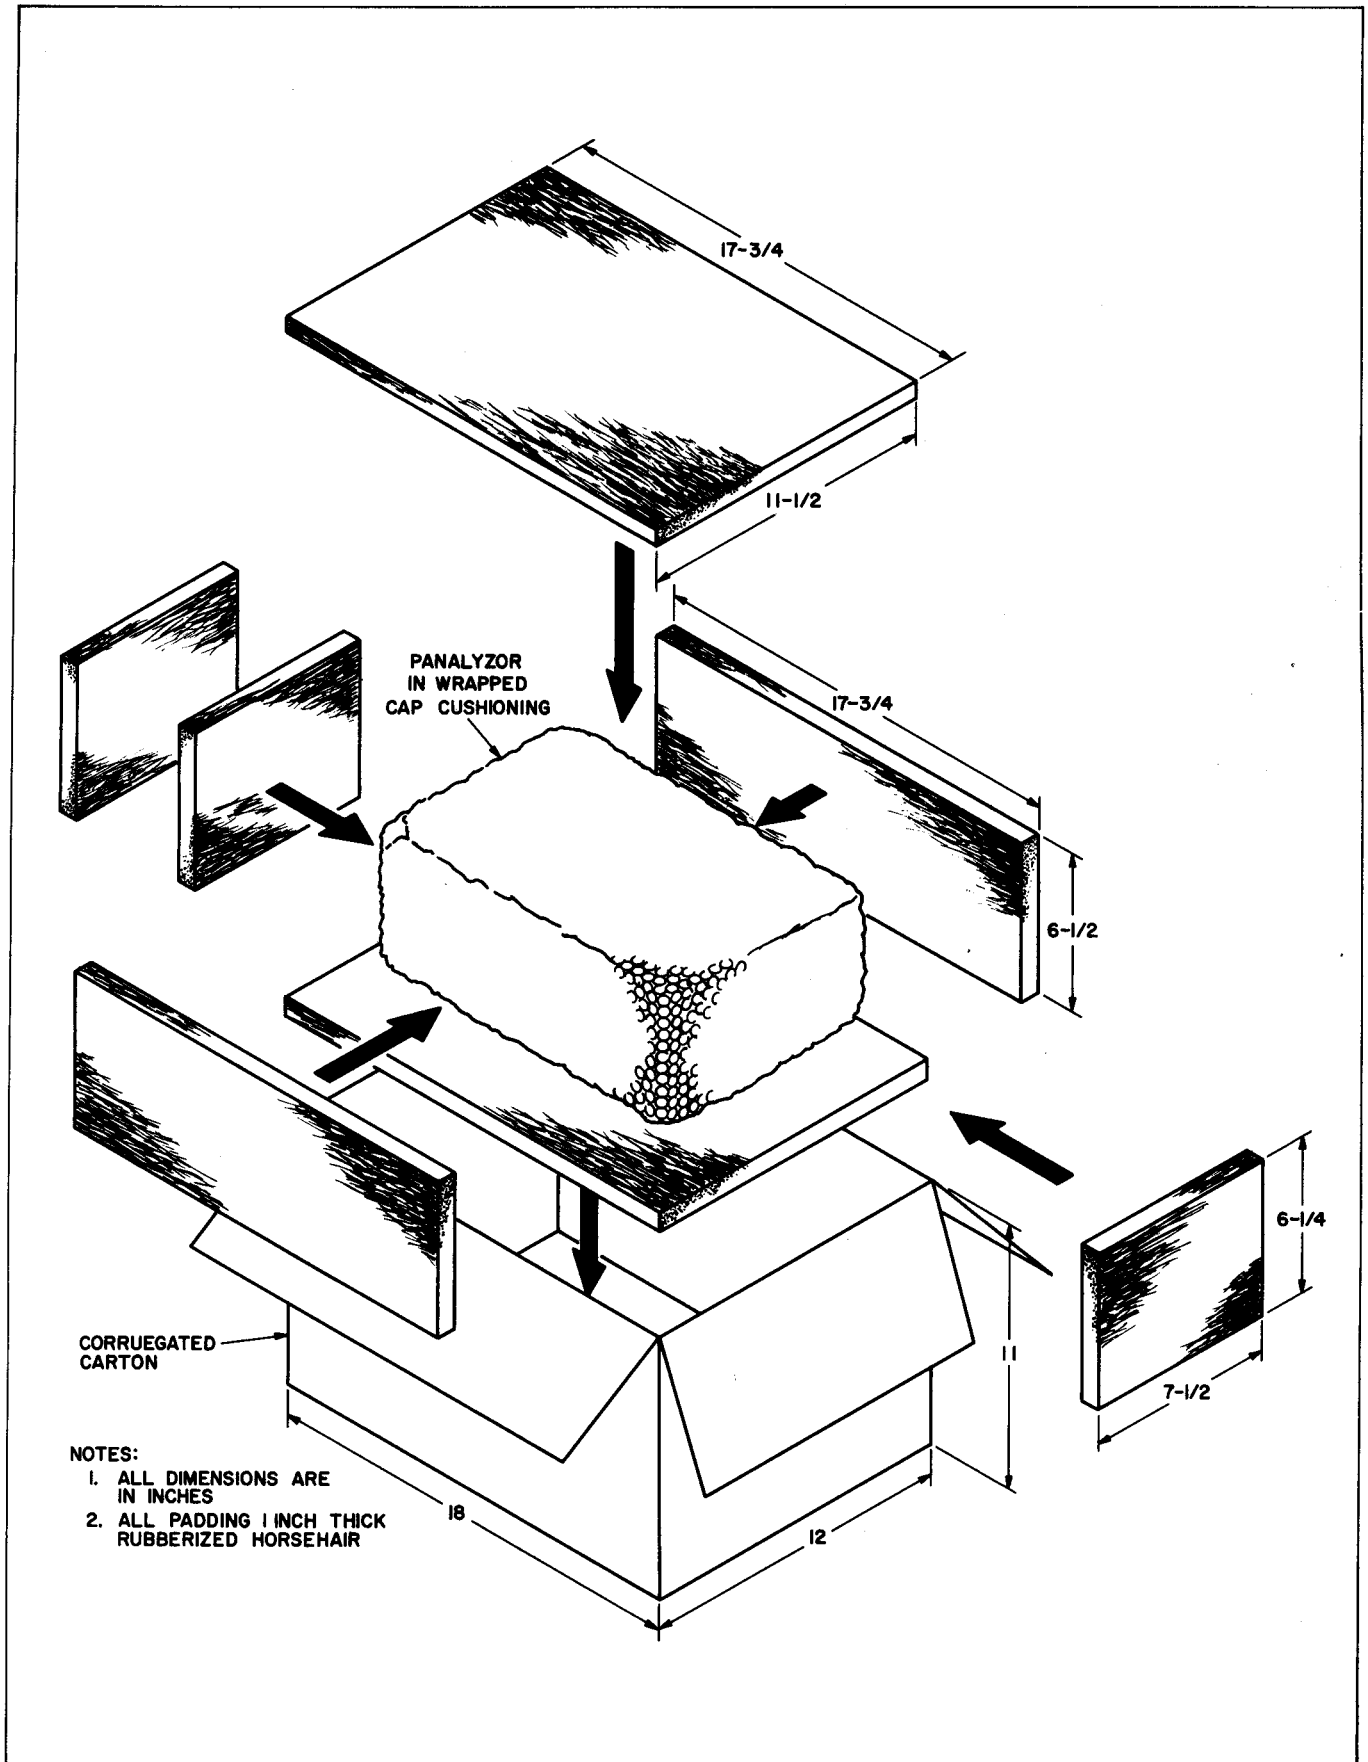

Figure 2-6. Packaging the Panalyzer
**2-17. LONG-TERM PACKAGING AND PACKAGING FOR SHIPMENT.** Figure 2-6 illustrates the packaging procedure for the Panalyzer.